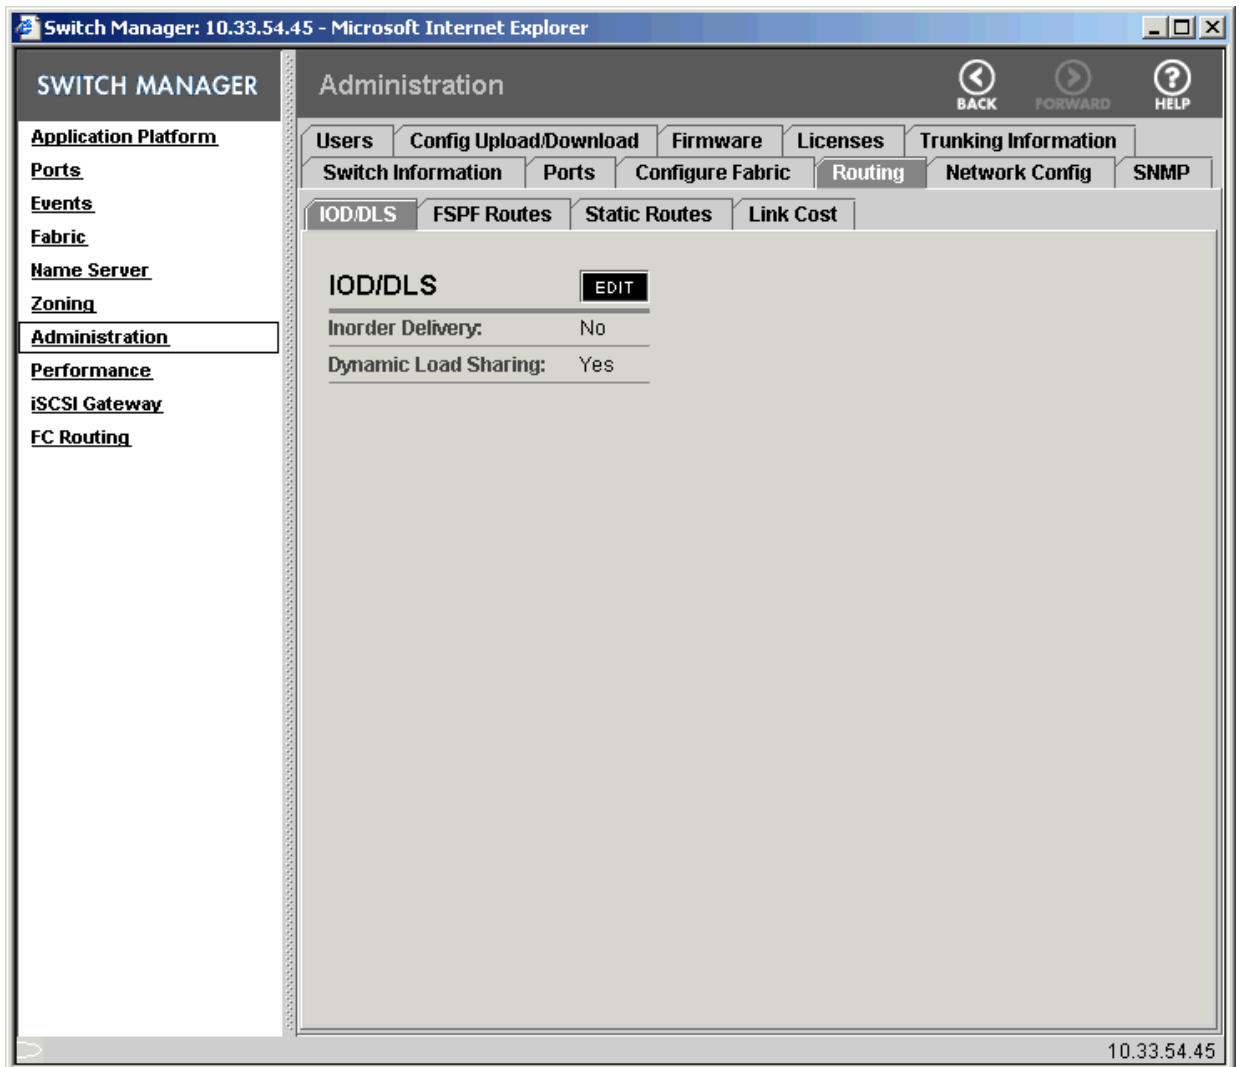

Figure 26 Administration page with Routing tab and IOD/DLS subtab selected
You can monitor and manage routing through the Switch Manager. Click **Administration** in the navigation bar, and then click the **Routing** tab. Figure 26 shows the Administration page with the Routing tab and IOD/DLS subtab selected.
4. Click the **IOD/DLS** subtab (see Figure 26 on page 75).